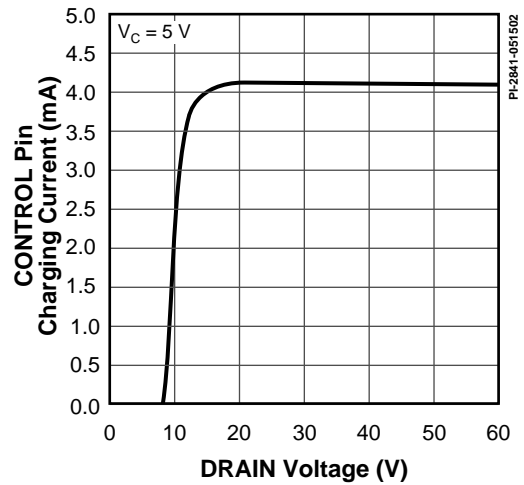

Figure 44.  $I_c$  vs. DRAIN Voltage.
- D. It is possible to start up and operate *DPA-Switch* at DRAIN voltages well below 16 V. However, the CONTROL pin charging current is reduced, which affects start-up time, auto-restart frequency, and auto-restart duty cycle. Refer to Figure 44, the characteristic graph on CONTROL pin charge current ( $I_C$ ) vs. DRAIN voltage for low voltage operation characteristics.